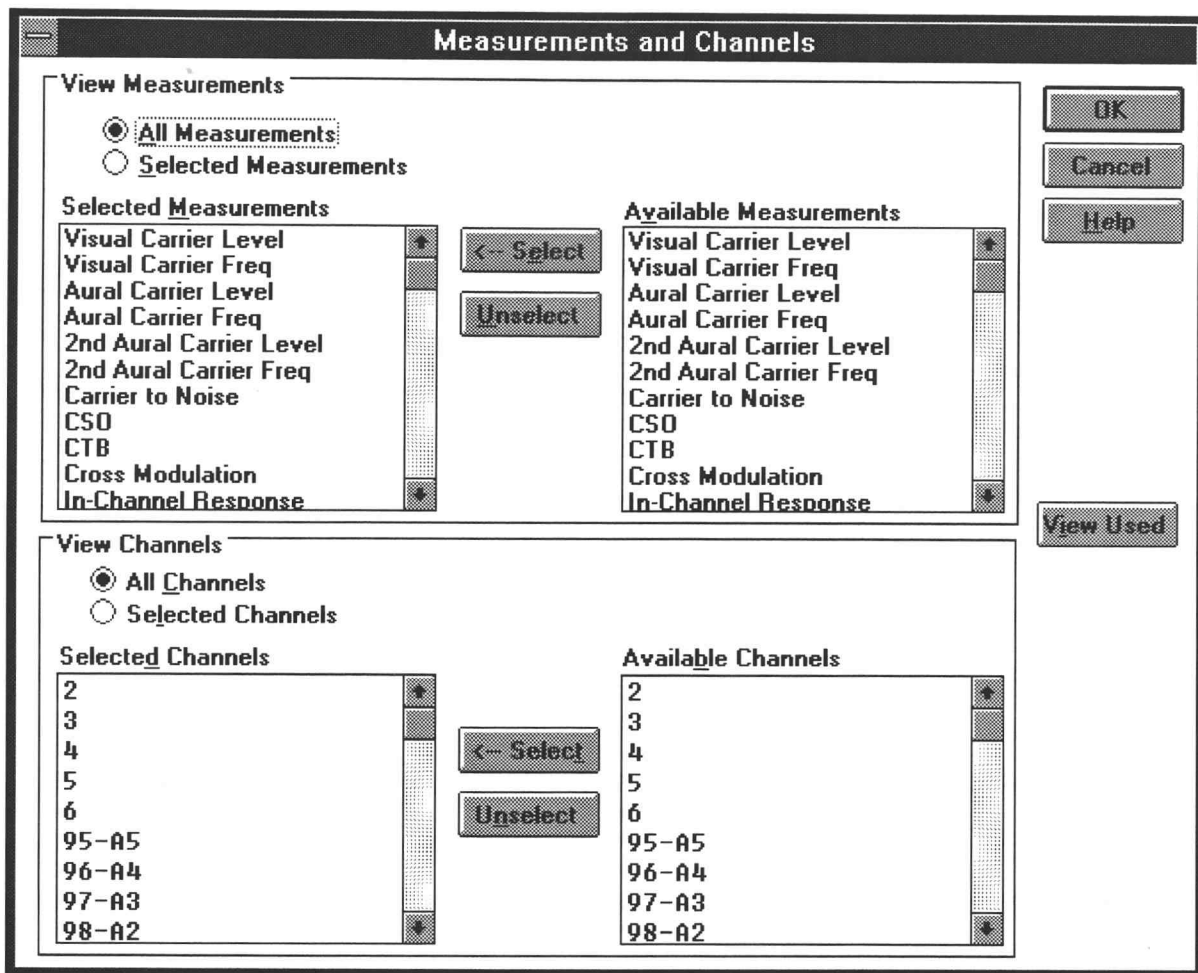

Figure 6-13. Measurements and Channels View Filter dialog box.
2. From the View menu, choose Measurements and Channels. The Measurements and Channels dialog box appears as illustrated in Figure 6-13.